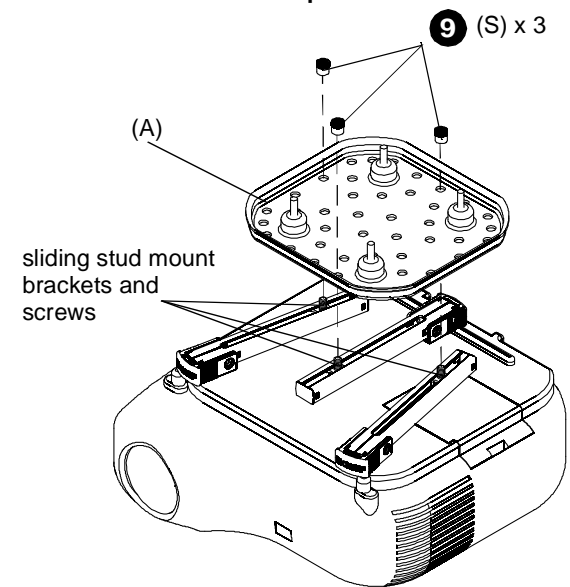

Figure 6
7. Maneuver legs so that sliding stud mount brackets and screws are towards the middle of the projector. (See Figure 6) and (See Figure 7)
8. Position sliding stud mount brackets and screws so that SSBU or SSMU main plate (A) can be evenly mounted to legs. (See Figure 6) and (See Figure 7)
9. Secure SSBU/SSMU main plate to SSBU/SSMU legs by installing 1/4-20" Allen nuts (S) to screws on SSBU/SSMU legs. (See Figure 6) and (See Figure 7)